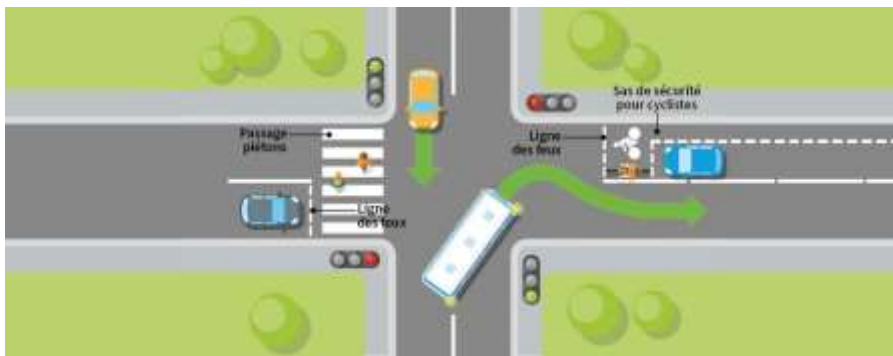

Fig.1: road traffic light
1. **Simulate the operation of a traffic light (Fig1)**